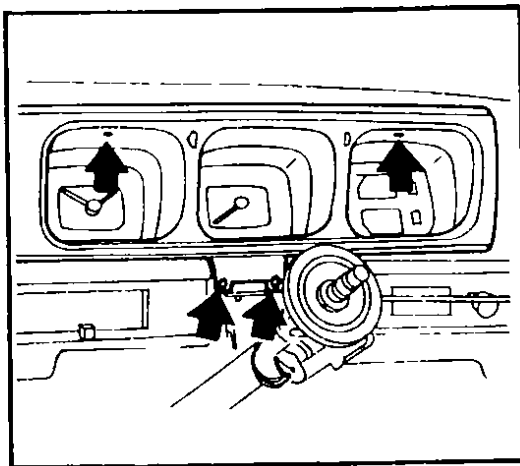

Fig 76 Removing cluster panel attaching screws – Model 610
- 9 To remove only the cluster panel, remove the steering column shell and cluster panel cover, Fig 76 It